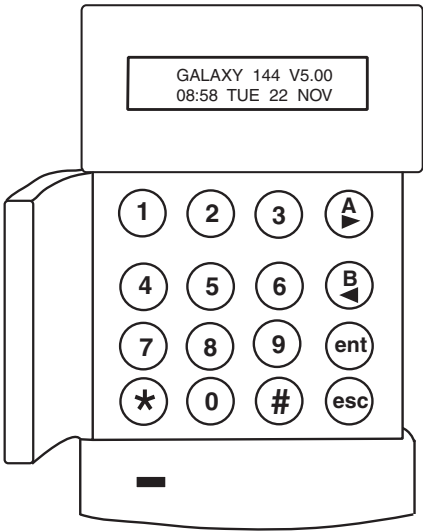

Figure 4-1. Galaxy Mk7 Keypad/KeyProx
- 16 backlit push buttons as shown in figure 4-1